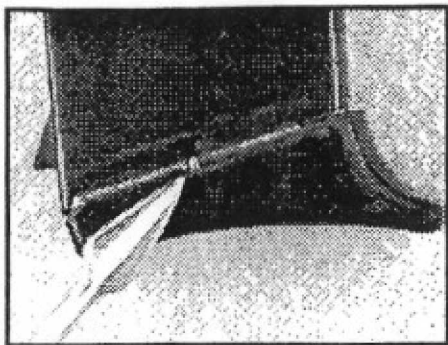

FIGURE 6: SPRING ENGAGES NOTCH IN MAGAZINE FLOORPLATE
- 1) On the left side of the magazine at its base is a notch. Through this notch a bent portion of the magazine spring protrudes to engage this notch. See Figure 6. Using a narrow gunsmith's screwdriver or like tool, lift the wire upward to clear the notch in the floorplate.